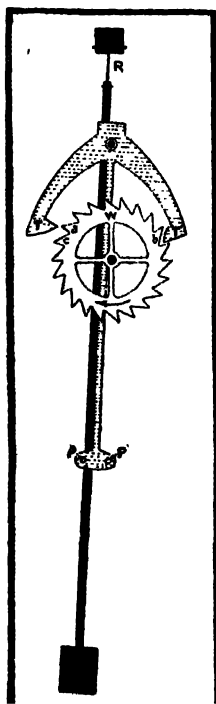

FIG. 218.—How the pendulum regulates a clock.
The pendulum of a clock is usually hung on a very thin ribbon of spring steel (R). As it swings back and forward, it bears against two pins P and P¹. The crutch (shaded in Fig. 218) which is pivoted at the top therefore swings backwards and forwards with the pendulum. The crutch carries two pallets, 'T, T'', which engage with the teeth of a ratchet wheel W. This wheel is geared to the train of wheels by which the weights drive the hands. *The hands cannot move unless the ratchet wheel moves too.* In
Fig. 218 the pendulum is not quite yet at the left hand end of its swing. The pallet T has just released the tooth *a*: the drive of the clock makes the wheel fly on until the tooth *b* strikes against the pallet T'. The pendulum finishes its stroke and so pushes *b* back a little in an anti-clockwise direction. This can often be seen in old clocks: in these the second hands visibly recoil at the end of each pendulum swing. The pendulum now starts back to the right. The tooth *b* as it goes back to the position from which it recoiled gives the pendulum a push and it is this push which provides the power that keeps it swinging. The pendulum now travels over to the right and just as tooth *b* has almost escaped from pallet T', pallet T comes in and engages tooth C. This will not be released again till the pendulum gets back to the left hand end of its swing. It is clear now that the escapement wheel can move only one tooth for each double journey of the pendulum. If the pendulum is regulated, as is usual, so that the double swing takes one second, the escapement wheel, which has 60 teeth, will get round once in a minute. (Fig. 218 shows only 30 teeth—for simplicity.) In this case, the escapement wheel may be attached directly to the second hand, the other gears being arranged so that the minute hand goes sixty times more slowly, and the hour hand twelve times slower still.